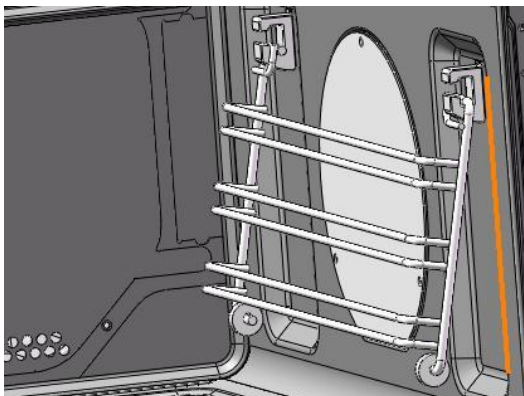

Fig.3
•The side shelf supports (Fig.3)